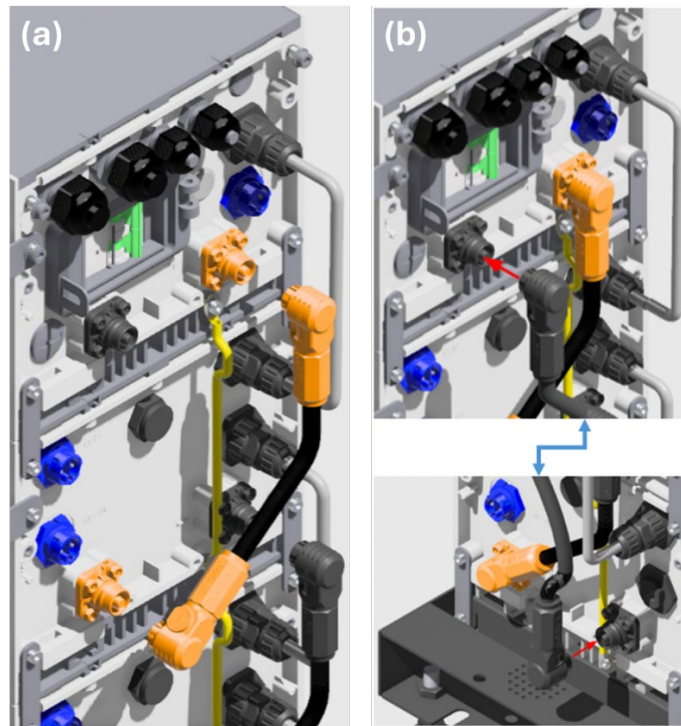

Figure 17: BMS Module to Battery Modules Power Wiring
2. Connect the **black-to-black cable** from the **negative (-) terminal of the BMS module to the negative (-) terminal of the bottommost battery module** (see Figure 17).